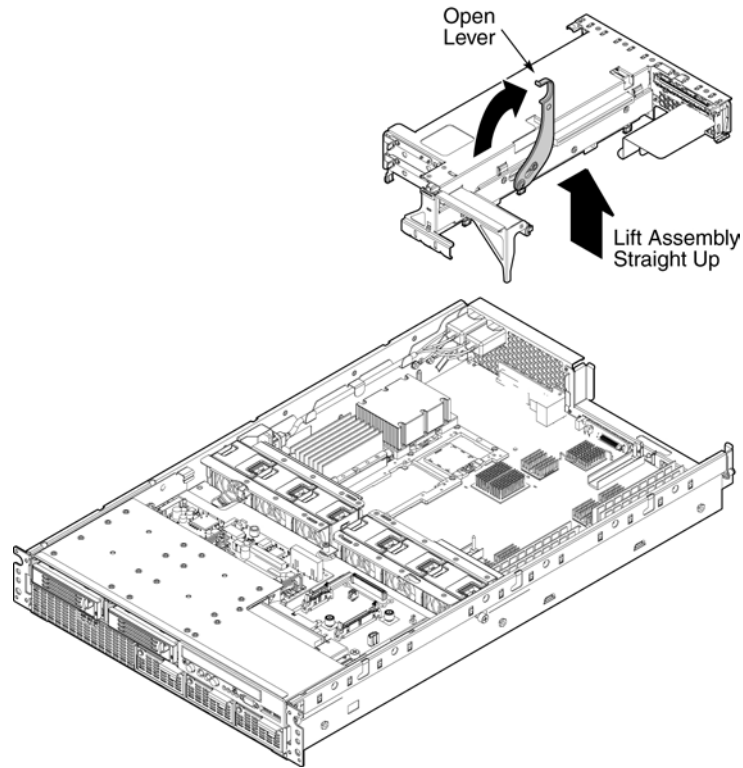

Figure 59. Removing PCI Riser Assembly
To remove the PCI riser assembly from the chassis, refer to *Figure 59* and follow these instructions:
7. Firmly grasp the riser release mechanism lever and slowly pull up and back on the lever. See *Figure 59*.